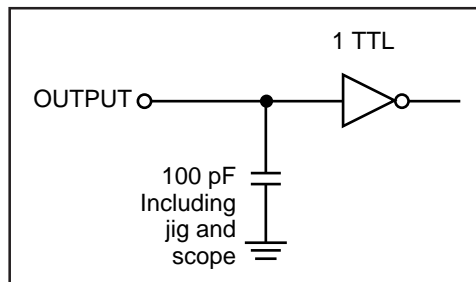

Figure 1
Output Load	See Figures 1 and 2
1. Test conditions assume signal transition times of 5 ns or less, timing reference levels of 1.5V, input pulse levels of 0.4V to 2.2V and output loading specified in Figure 1.
1. Test conditions assume signal transition times of 3 ns or less, timing reference levels of 1.3V, input pulse levels of 0.4V to 2.2V and output loading specified in Figure 1.